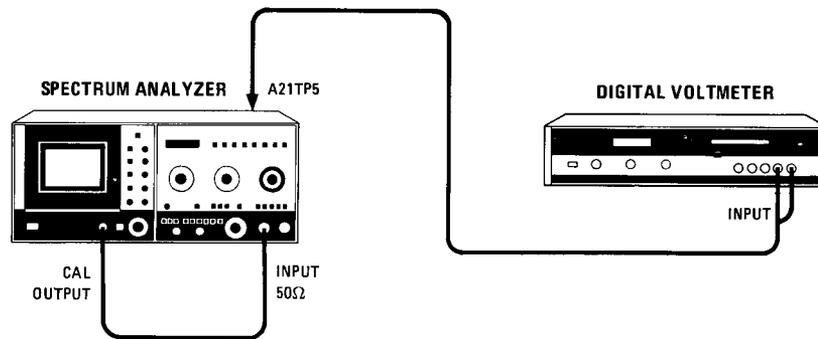

Figure 5-18. Video Offset Adjustment Test Setup
- b. Reconnect power cord, set LINE switch ON, connect equipment as shown in Figure 5-18, and set 8565A controls as follows: